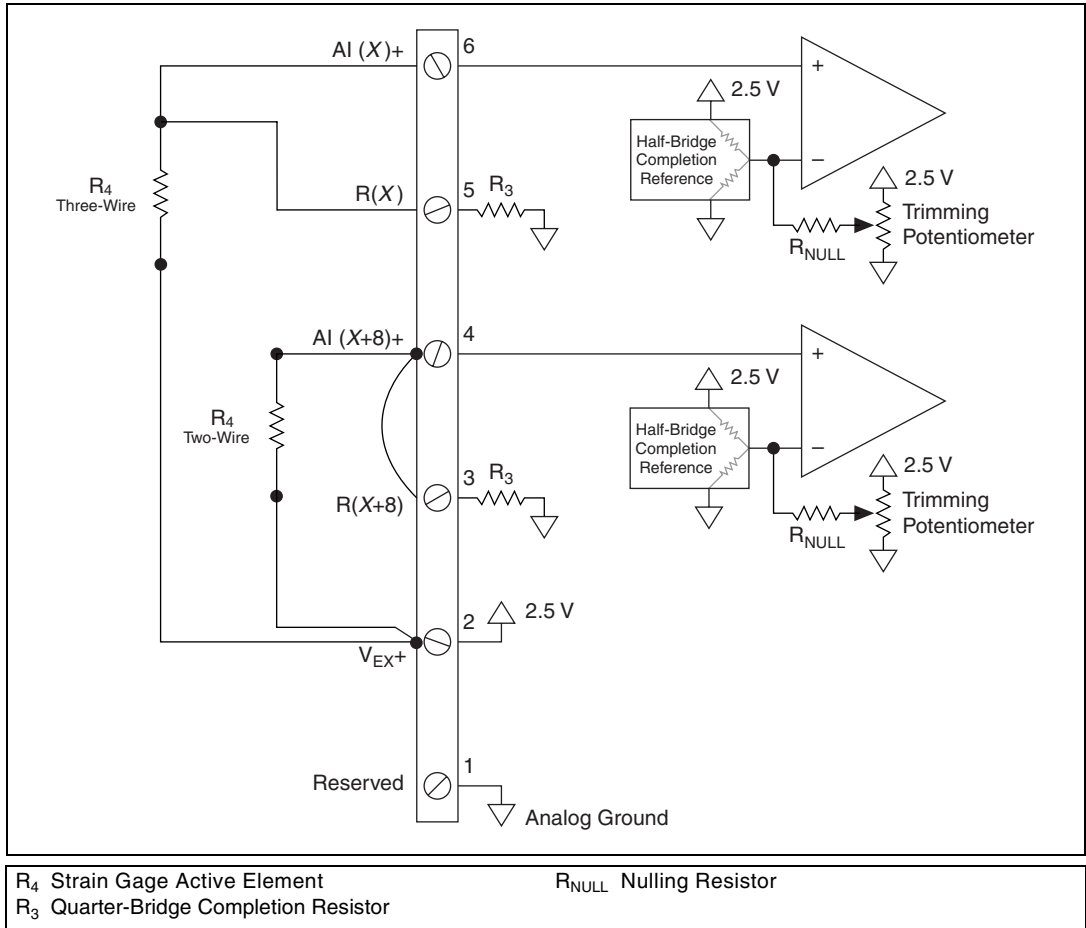

Figure 4. SCC-SG01/02 Quarter-Bridge Configuration Connection (Two Channels)
Figure 4 shows how to set up two quarter-bridge type I configurations with the SCC-SG01/02.
Connect the two-wire strain gage element leads to AI (X) and V_{EX+} . For a three-wire strain gage, connect the two-wire lead to AI (X)+ and R(X), then connect the single lead to V_{EX+} . Figure 4 shows two quarter-bridge configurations using AI (X) and AI (X+8) with a three-wire strain gage connected to AI (X) and a two-wire strain gage connected to